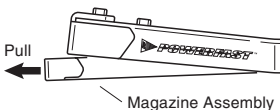

Figure 4 - Removing Magazine Assy.
- Release magazine assembly and slide forward from head assembly (see Figure 4).